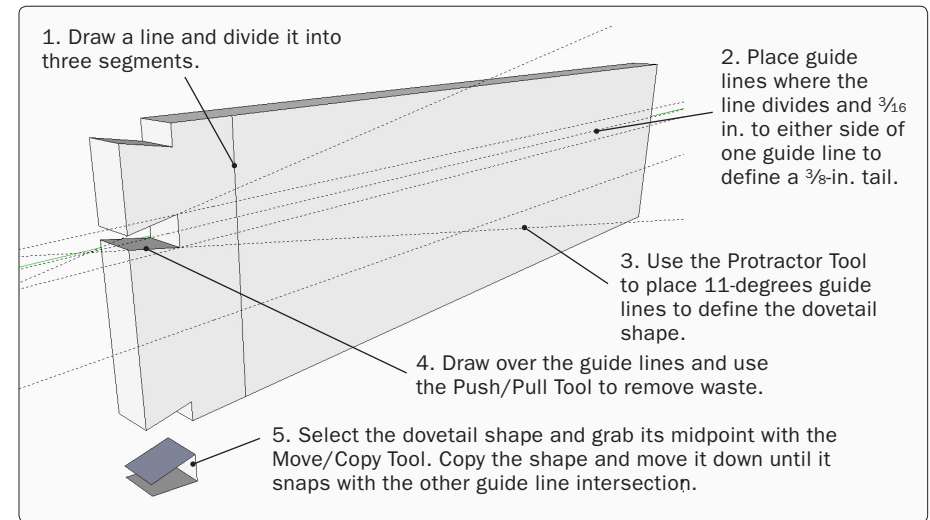

Figure 53. Complete the front dovetails.
Step 43 To draw the remaining dovetails and space them evenly, use the same procedure described in Chapter 7. Draw a vertical line from top to bottom. Right-click on the line and select Divide from the pop-up menu. Select the line and move the mouse until the pop-up window indicates that it's been divided into three segments. Click the mouse to set the divisions. As shown in Figure 53, place guide lines at the breakpoints of